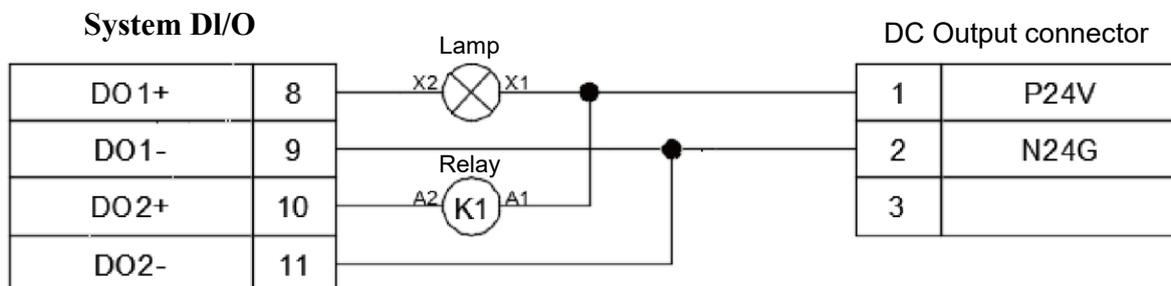

Figure 5.25 System DO DCV controller voltage output NPN wiring
- Figure 5.25 shows the NPN wiring method when using the DCV controller voltage output as the output voltage signal.